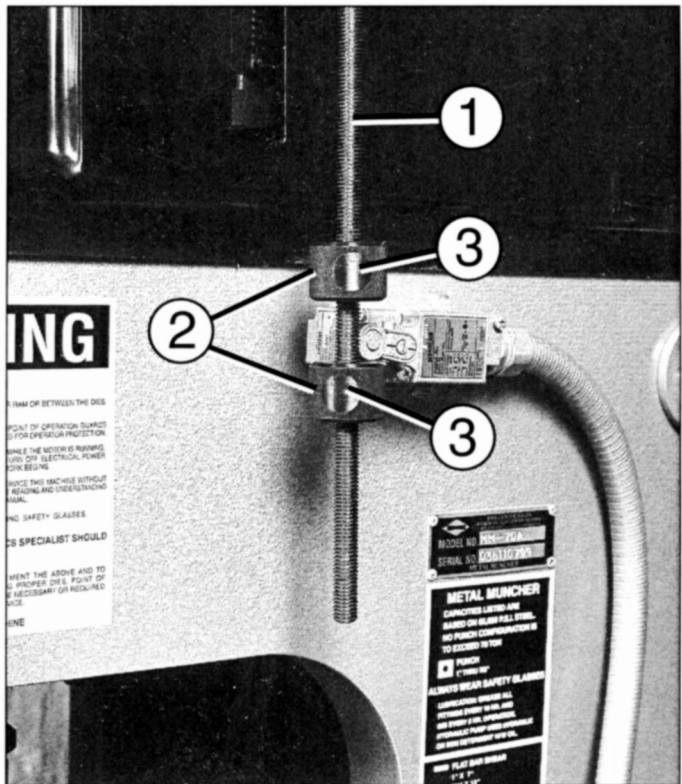

Figure 3
3. Release limit switch quick adjustment collars from shipping position (see Fig. 3).
Press in on quick-set stroke buttons (item No. 3, Fig. 3) and position stroke collars (Item No. 2, Fig. 3) to allow the ram stroke desired. Final fine adjustment is made by rotating the stroke collars on the vertical threaded rod (Item No. 1, Fig. 3).